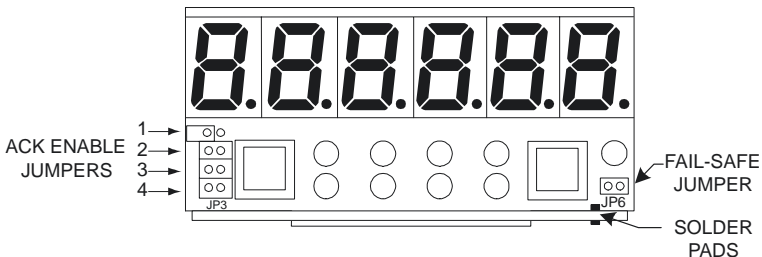

Figure 14: Relay Reset & Fail-Safe Jumpers
Removing jumper JP6 disables the fail-safe operation. Jumper JP6 is located on the Display Board, see Figure 14 on page 29. If fail-safe mode is disabled, the operation of the relay contacts is opposite to the one described in the previous paragraph.
2. Using a pair of needle-nose pliers, short out the solder pads located on the top and bottom of the Main Board, to the right of the ACK button below JP6 (see Figure 14 on page 29), until the display shows "rE5Et".
Meter options are installed at the factory. It is **NOT** necessary to remove the circuit boards from the case to disable the relays' fail-safe operation. The fail-safe jumper is located on the Display Board, see Figure 14 on page 29. Refer to the following instructions and illustrations to remove the snap-off cover and the circuit boards from the case.